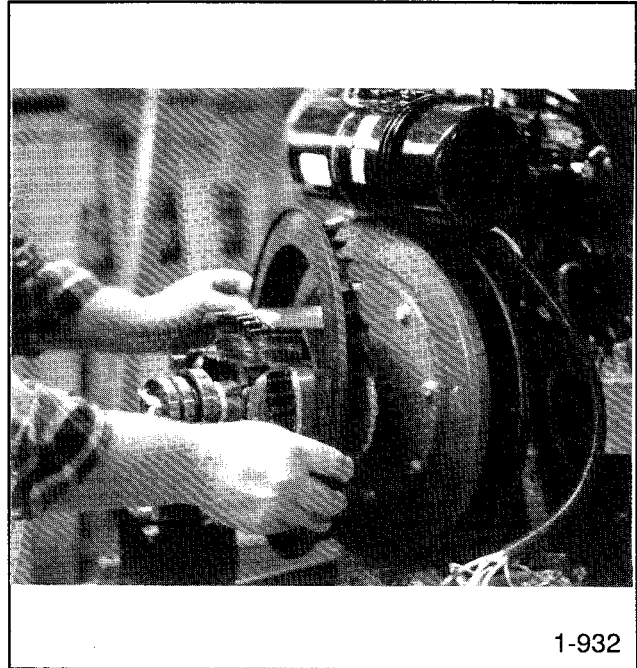

Figure 8-12. Removing the Cooling Fan.
21. Remove the generator cooling fan by removing eight screws and four spacers. See Figure 8-12.